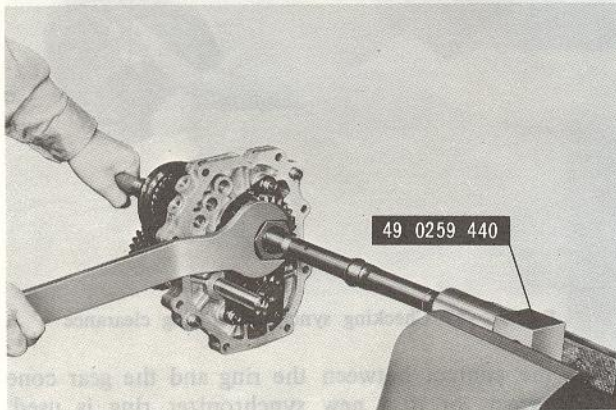

Fig. 7C-12 Loosening lock nut
23. Straighten the tab of the lockwasher, hold the main shaft with the **main shaft holder** (Part No. 49 0259 440) as shown in Fig. 7C-12 and loosen the lock nut by using the **spanner** (Part No. 49 0164 631A). Slide the reverse gear off the main shaft.